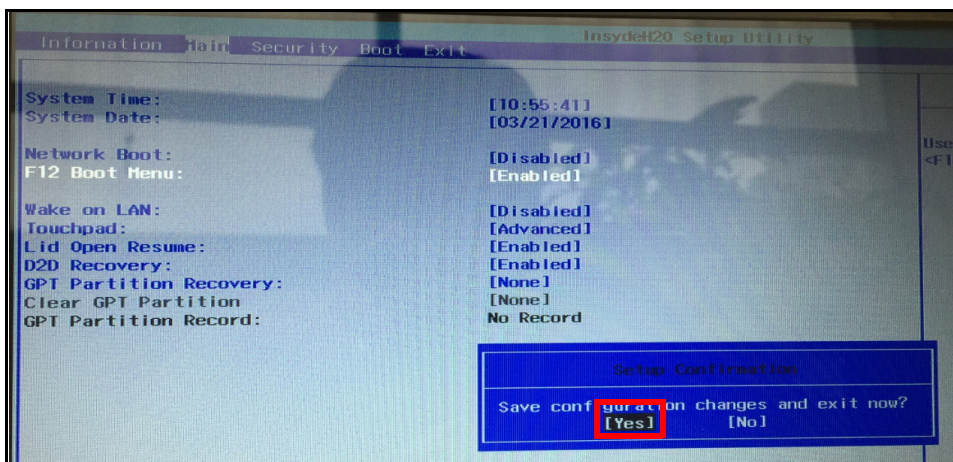

Figure 2-85. Save Configuration Changes and Exit
6. Press **F10** and confirm your selection to save the settings and exit the BIOS Menu (Figure 2-85). The system will restart automatically.